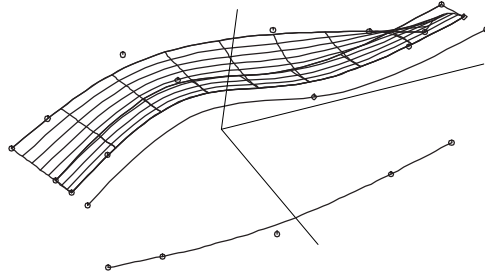

Fig. 18
- 4 **Select** **'curve2'**, **'pt25'** and **'pt26'**, in that order, and make another **Relative Curve**. **Name** this Relative Curve **'relcvlower'**. **OK** (Fig. 18)